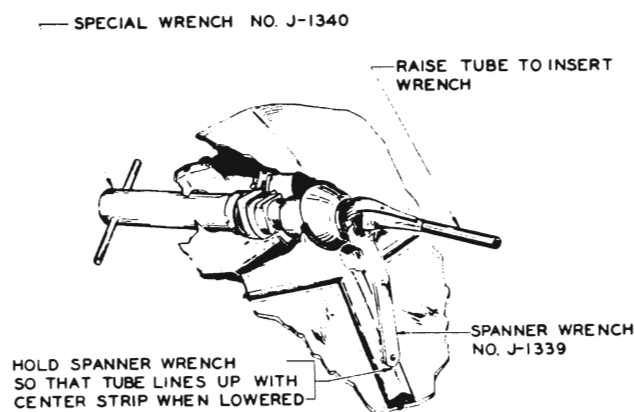

Fig. 12-105. Installing Antenna Control Assembly
- Wrench No. J-1340. Fig. 12-105.